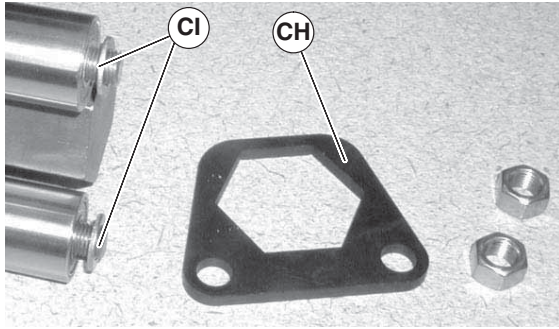

Figure 69
6. Remove support plates (Figure 69, item CH) and washers (CI).